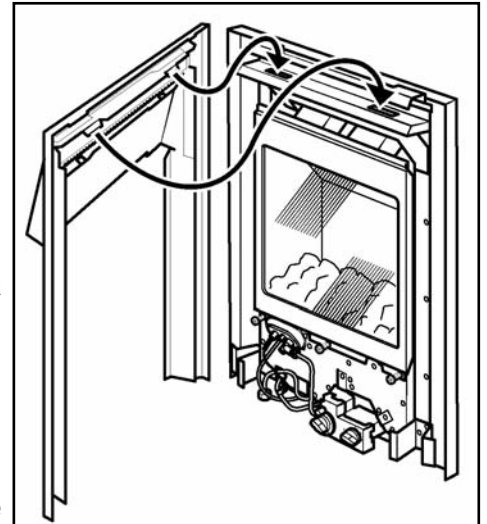

Figure 32. Fascia fitting
- Locate the two lugs at the top of the fascia in the slots in the convection box hood. Swing the bottom of the fascia sides back against the convection box and lower the fascia so that the lugs are fully seated in the slots in the convection box hood (See figure 32).